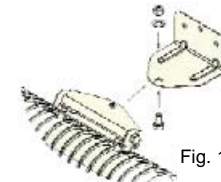
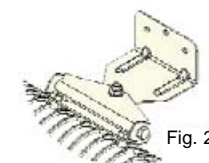

Fig. 1
Fig. 2
2. Securely fasten the heater on the bracket using the nut and bolt supplied. See Fig. 1 and Fig. 2.